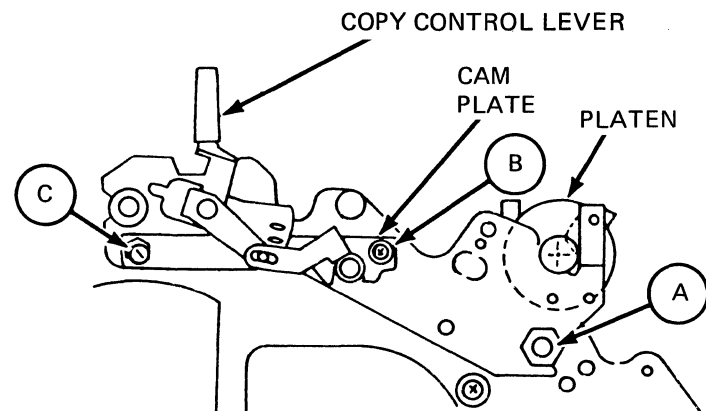

Figure 5-11 Platen Height Adjustment
- If print density varies from top to bottom of the character, platen height can be adjusted by screw A (see Figure 5-11). There is one on each side.